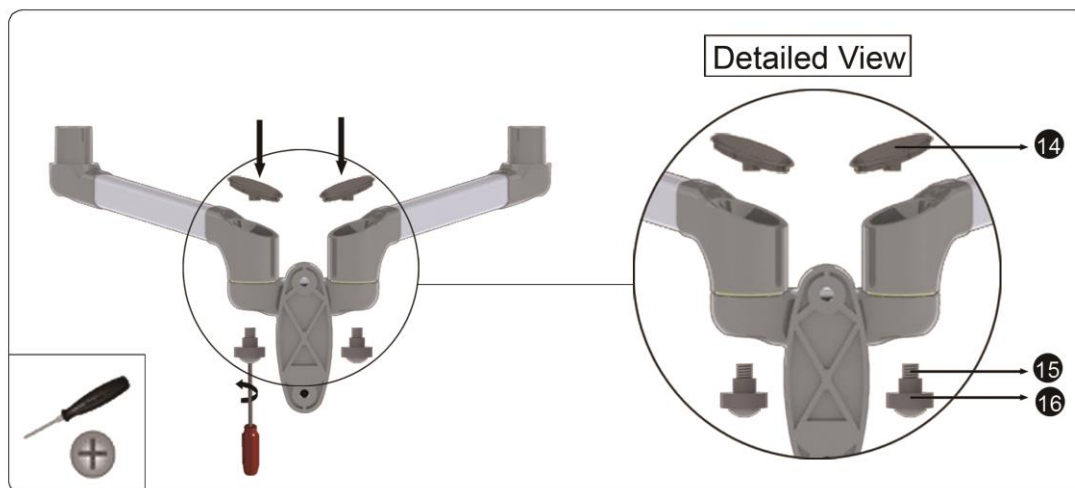

Figure 3-2
2. Place the arm Covers (14) on the pivot points. Place the Phillips Screws M6x12mm (15) through the Gaskets (16) and into the bottom of the DEK (18). Securely tighten screws with a Phillips Screwdriver. Do not over tighten. The arm covers are used to help secure the extension arms (See Figure 3-2).